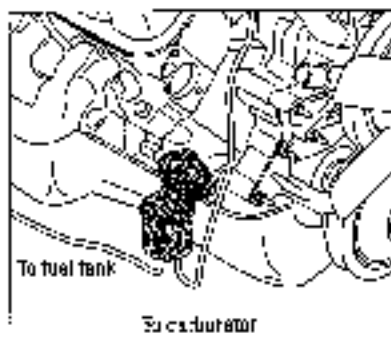

Figure 21-2
2. **Disconnect the fuel pump end of the hose that leads from the carburetor to the fuel pump (see Figure 21-2) and place the end of the hose in a jar or plastic bag.**